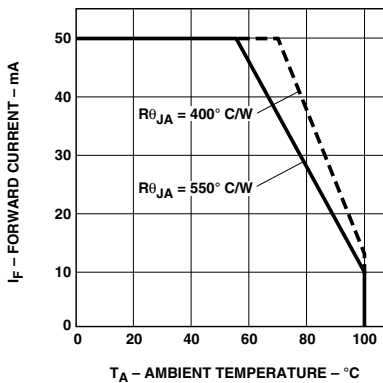

Figure 6. Maximum forward DC current vs. ambient temperature. Derating based on $T_{JMAX} = 110^\circ\text{C}$.
- Derate linearly as shown in Figure 6.